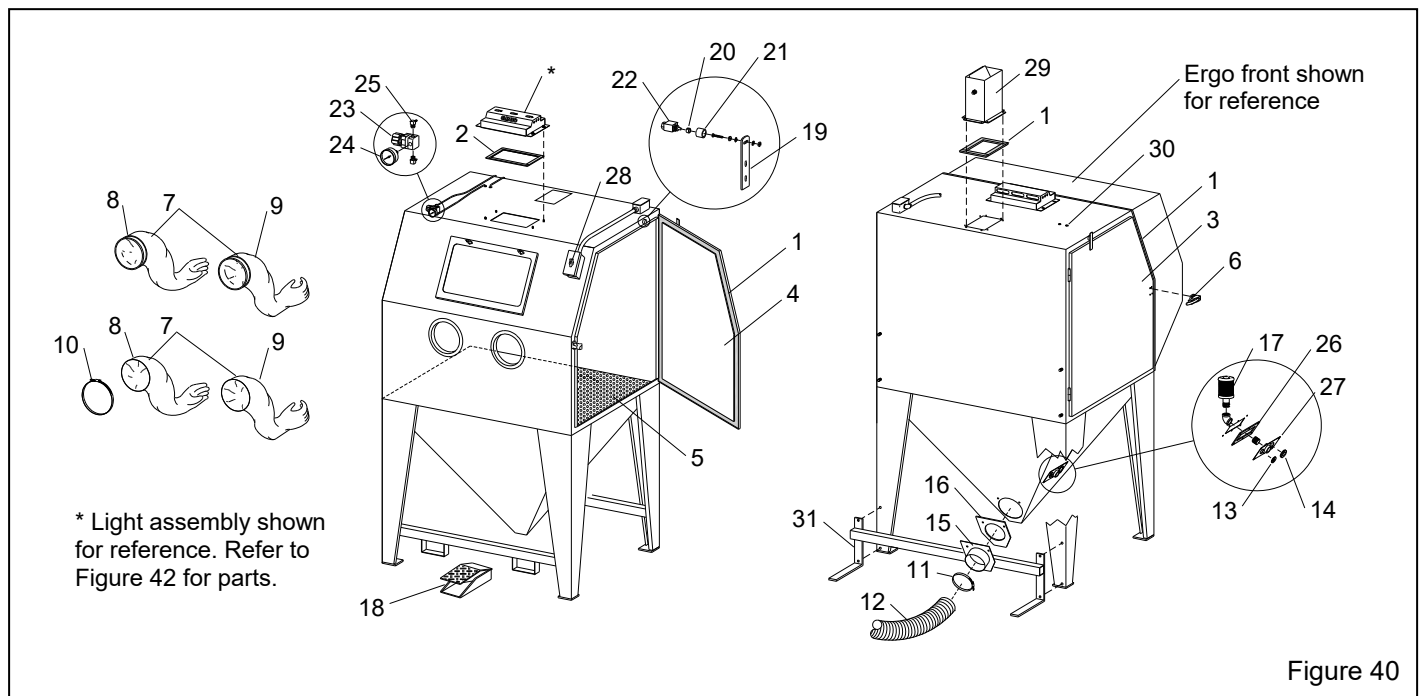

Figure 40
9.2 Cabinet Replacement Parts – Figure 40